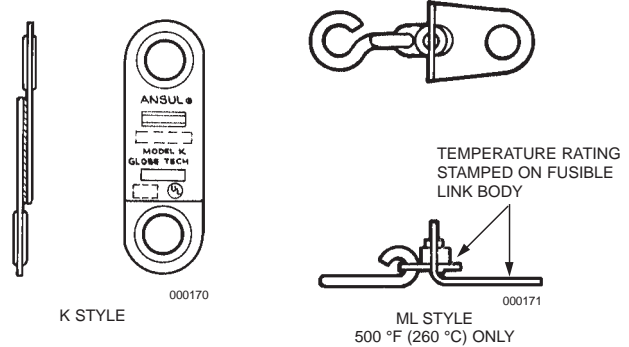

FIGURE 21
- ▶ Select correct UL Listed fusible link(s) for installation in detector(s) according to the temperature condition. Two styles are available. See Figure 21. See Component Section for detailed temperature ratings.